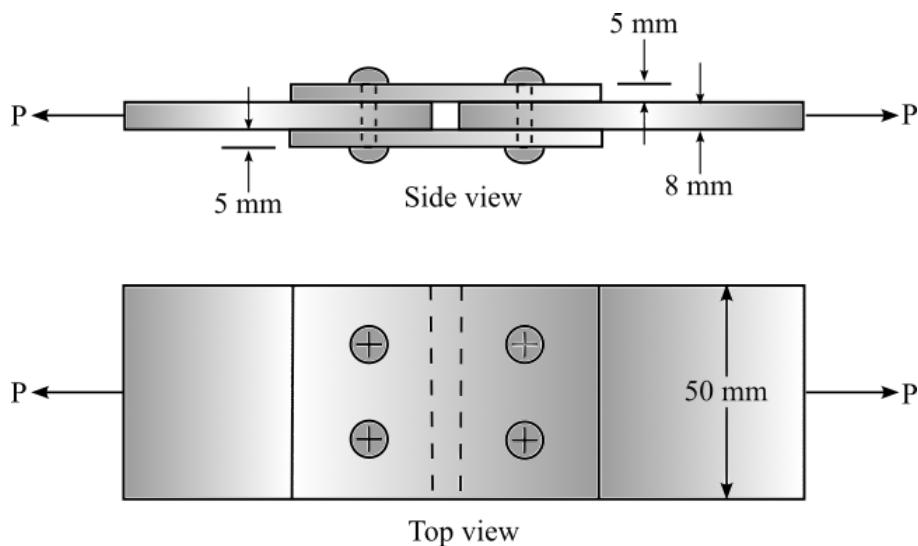

Figure 1 (a)
*[Sila pastikan bahawa kertas peperiksaan ini mengandungi TUJUH (7) muka surat yang bercetak sebelum anda memulakan peperiksaan ini.]*
**Instructions:** Answer ALL **FIVE (5)** questions.
**Arahan:** Jawab **LIMA (5)** soalan]
1. (a) The butt joint of Figure 1 (a) is fastened by four 15-mm diameter rivets. Determine the maximum load  $P$  if the stresses are not to exceed 100 MPa in shear, 140 MPa in tension, and 210 MPa in bearing. Assume that the load is equally divided among the rivets.
(b) Double layered tubes are made with an inner tube and an outer tube, which need not be of the same material. Double-layered tubes are widely used for petrochemical plants, power generating facilities and machine parts as they provide greater reliability and resistance to explosion. Figure 1(b) shows the schematic drawing of the double-layered tube with AISI304 stainless steel is used for the inner tube and SS400 carbon steel is used for the outer tube. The tubes are fitted between two walls at ambient temperature 25 °C. The dimension and properties of the tube is given in Table 1(b).